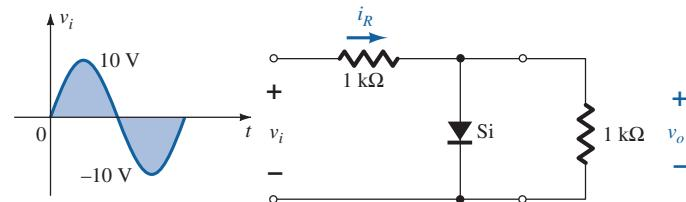

FIG. 171
*26. For the network of Fig. 171, sketch v_o and i_R .